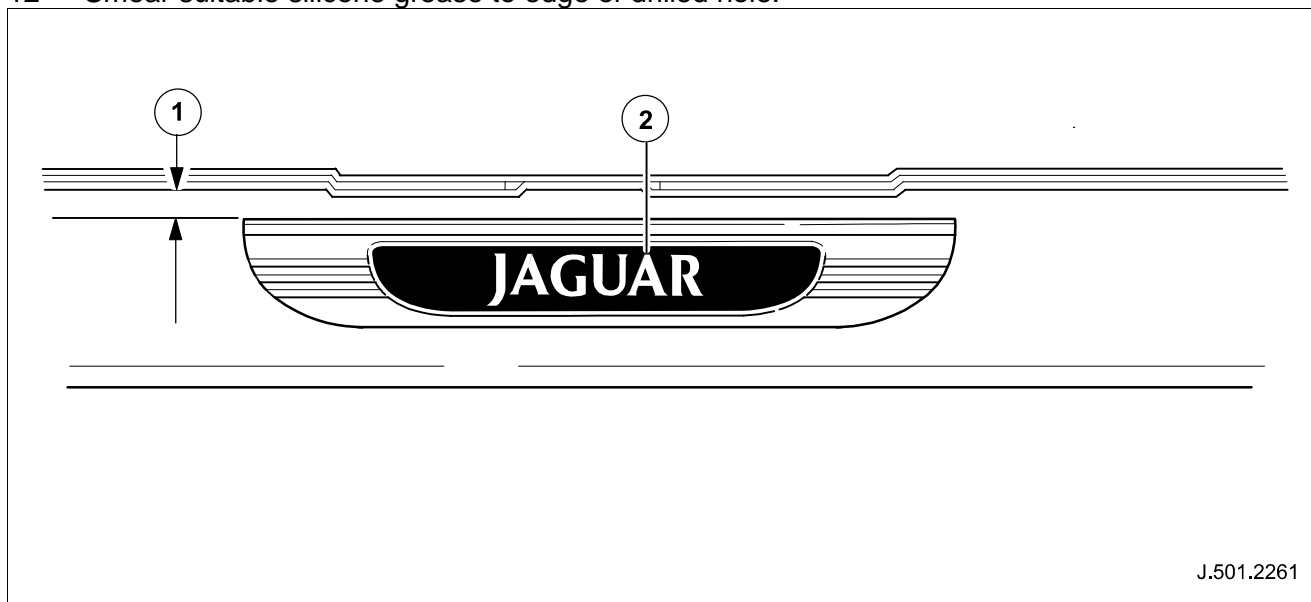

Fig. 2
- 13 Measure 10mm from the sill aperture flange across the sill. (See item 1, Fig. 2)
- 16 Using the new sill tread plate, align the second 'A' in Jaguar emblem with sill aperture flange rear edge and install tread plate to sill. (See item 2, Fig. 2)